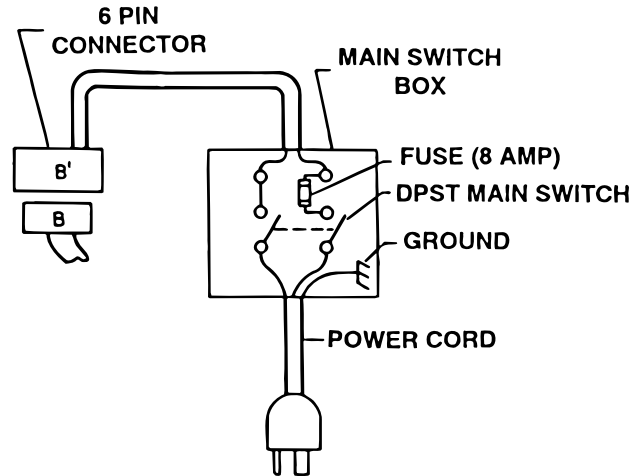

Figure 5-2. Main Switch Box and Fuse
2. Disconnect connectors B and B'. See figure 5-2. Leave all other connectors connected.